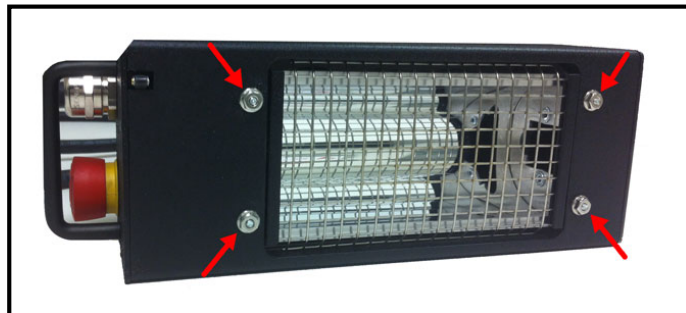

Figure 8
2. Remove the (4) nuts as shown in *Figure 8*